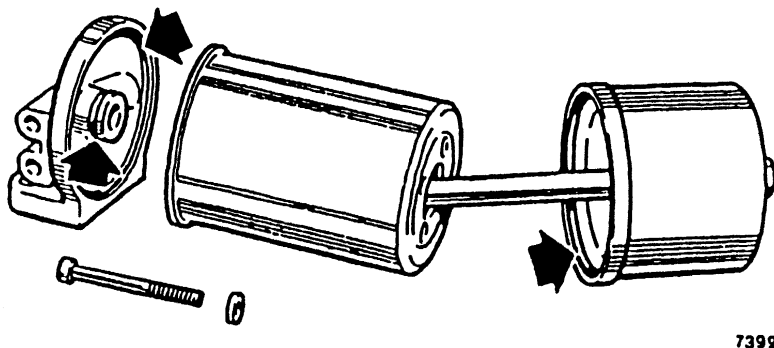

Fig 4 Renewing fuel filter element. Arrows indicate sealing rings and gaskets
9. Clean all dirt from and around the filter. To remove the filter element, unscrew the centre bolt at the filter head and detach the sediment trap and element, gaskets and sealing rings. Clean the filter head and the sediment trap to remove any foreign matter and then blow dry with compressed air. Do not use cloth for this purpose. Install new sealing rings and gaskets (Fig 4) to the filter head and sediment trap, ensuring that they are correctly located and not kinked or twisted. Position new filter element so that it locates over the sealing ring, reassemble bottom and refit and tighten centre bolt to bottom cover.